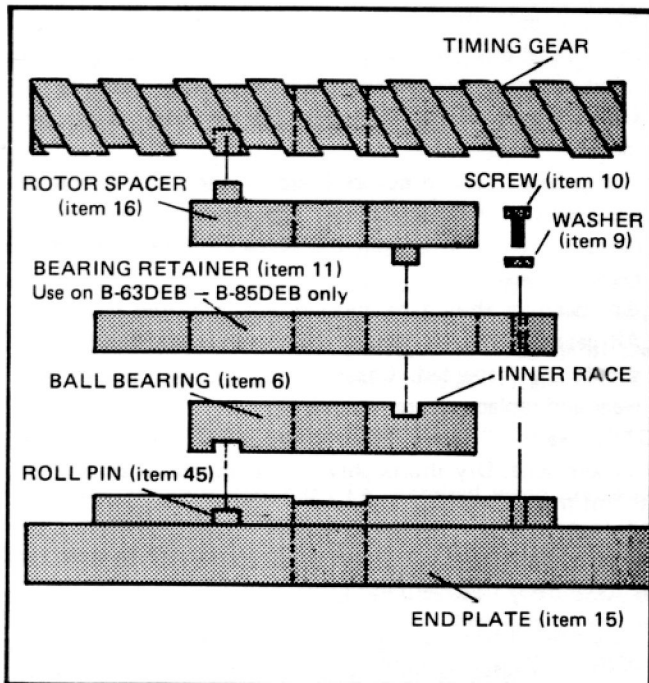

Figure 4-2 End Plate, Bearing, Spacer, Retainer and Timing Gear Alignment Detail
1. Adjust the 2 set screws located on each of the drive gears (items 17 and 32) until both rotors (items 13 and 33) are flush with the backside of the rear end plate (item 15).
2. (See Figure 4-2) Insert a shim into the outlet port located on the front end plate (item 4) and determine the total distance between the backside of the front end plate and the 3T Rotor (item 131). Repeat this procedure for the 4T rotor (item 331).
3. Adjust the 2 set screws located on the small drive gear (item 17) until the distance between the backside of the front end plate (item 4) and the 3T Rotor is half of the total distance determined. Repeat this procedure for the large drive gear (item 32) and the 4T rotor (item 331).